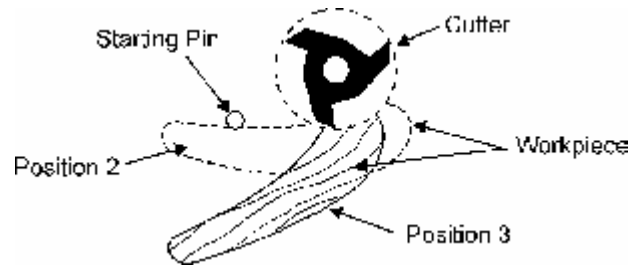

Figure 44
- After the cut has been started, the work is swung free of the starting pin and only rides against the collar (Figure 44). Always feed against the cutterhead rotation.